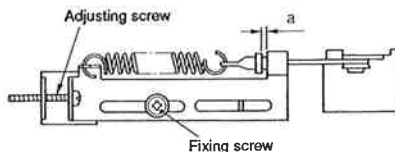

Figure 4-207
- 3) Turn the adjusting screw until the distance a in Figure 4-207 is as follows: